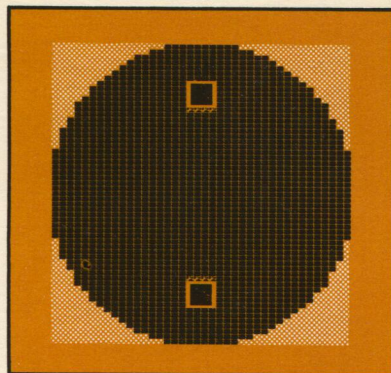

Figure 2—Circular Array Pattern. Circular Array approximates actual wafer. The useless fringe areas on the array are eliminated, increasing system throughput.
Shrink/Expand Function — Fig. 1. 10X circuit pattern shrunk to 72%. Fig. 2. Circuit pattern 10X final size. Fig. 3. 10X circuit pattern expanded to 123%.
- **Optional circular array pattern** which reduces stepping time 15 to 20 percent. (See Figure 2.) Simple input requiring keyboard entry of die size and array diameter. Automatic computer print-out of the number of rows and columns.